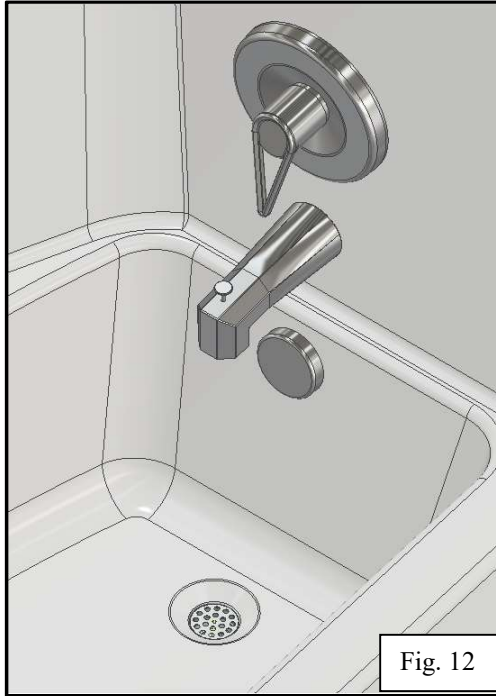

Fig. 12
- 7) Install plumbing hardware (shower valve, shower head, and drain) at this time as per manufacturer's instructions. A code approved drain outlet should be used. Be sure to use silicone or plumber's putty between the chrome flange and the finish side of the shower. (Fig. 12)